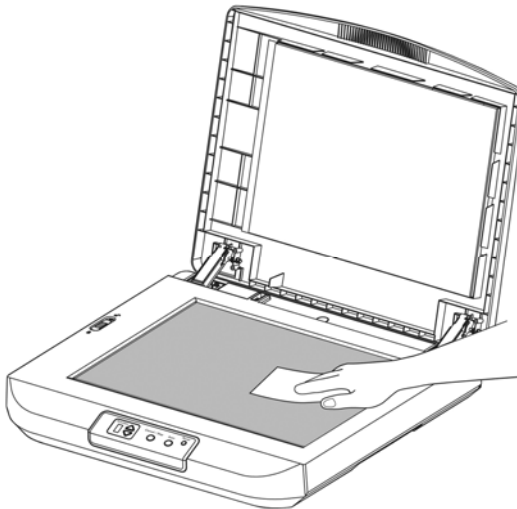

Figure 6-1 The cleaning area
- 2) Open the document cover as shown in Figure 6-1. Wipe the document glass.